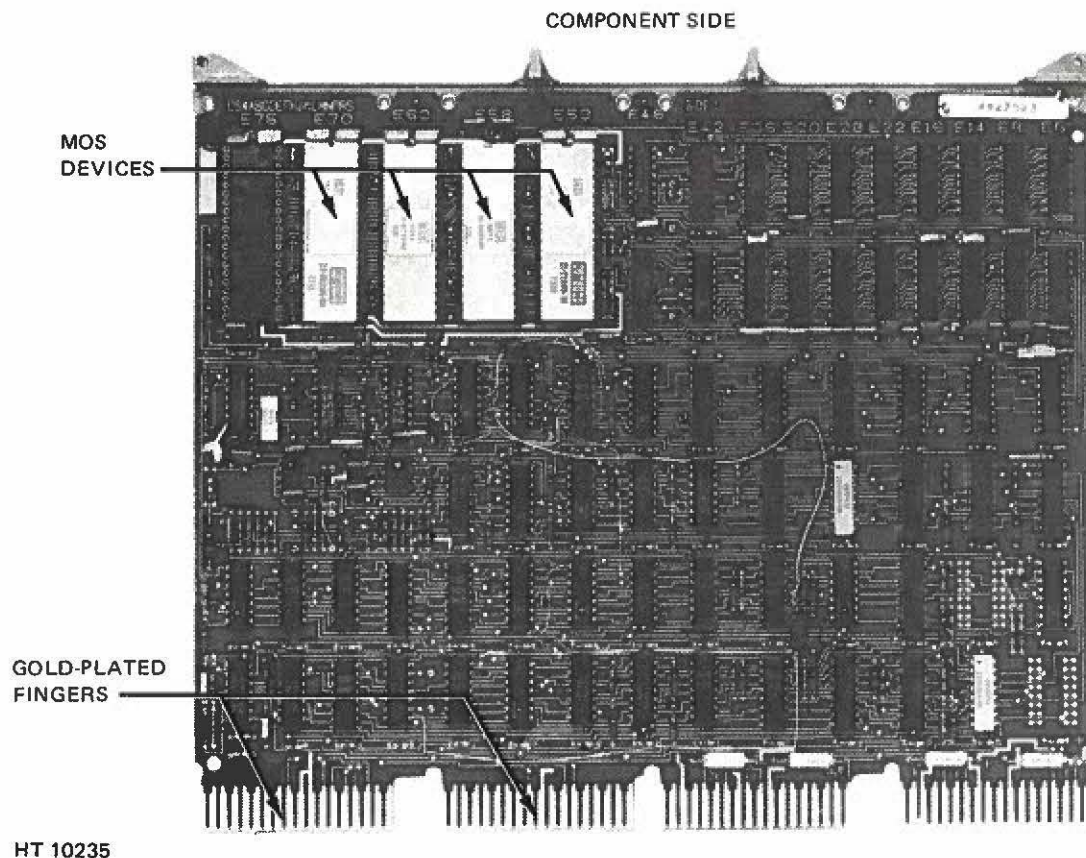

Figure 1. PWBA With Mos Devices
CAUTION. *The office equipment uses metal oxide semiconductor (MOS) devices (fig. 1). Special handling of PWBAs (Stromberg-Carlson identifies these with a red designation strip titled CAUTION STATIC SENSITIVE) that contain these devices is required. All personnel, tools, test equipment, and metal objects that come in contact with MOS devices must be electrically grounded. Any static and/or foreign voltage that is introduced into these devices can damage them permanently.*
- a. Do not handle by the gold-plated contacts (fig. 1) or apply direct pressure to the components.